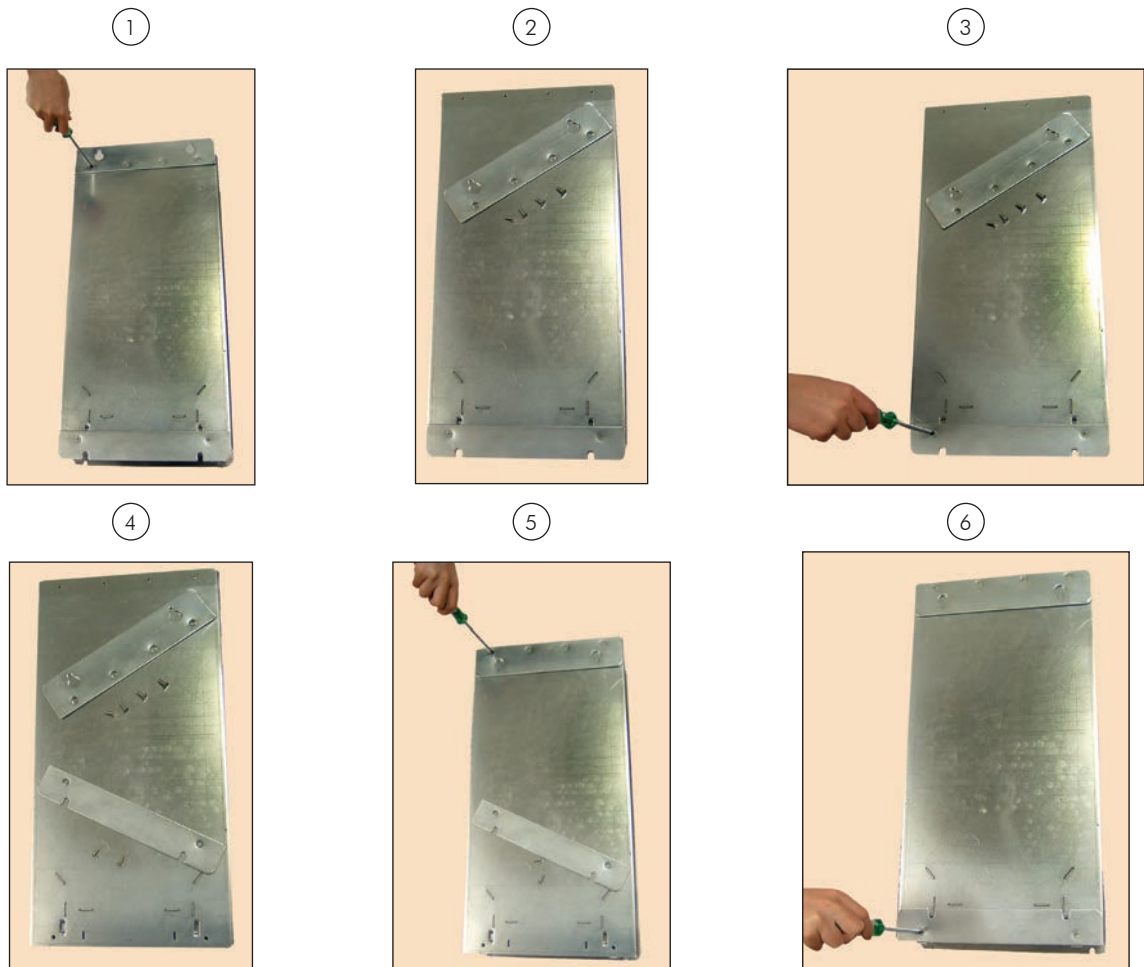

Figure 3.3 - Repositioning the mounting supports
- ☑ The inverter securing supports and the hoisting eyes must be removed and repositioned according to the figure 3.3.